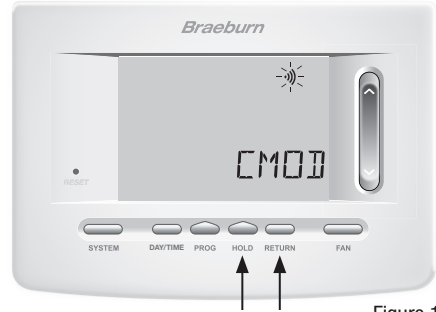

Figure 1
2. The word **CMOD** (control module) will appear in the display and the  symbol will flash (see Figure 1).